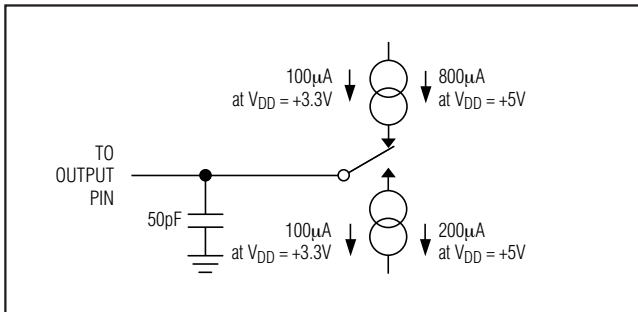

Figure 1. Load Circuit for Bus-Relinquish Time and  $V_{OL}$  and  $V_{OH}$  Levels
**Note 24:** Measured with the load circuit of Figure 1 and defined as the time required for the output to cross the  $V_{OL}$  or  $V_{OH}$  limits.
**Note 26:** Derived from the time taken by the data output to change 0.5V when loaded with the circuit of Figure 1. The number is then extrapolated back to remove effects of charging or discharging the 50pF capacitor. This ensures that the times quoted in the timing characteristics are true bus-relinquish times and are independent of external bus loading capacitances.